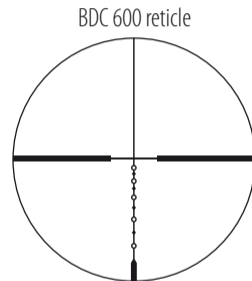

Fig. 3
(1) Focusing
- 1 Look through the eyepiece with your eye positioned about 4 in. (10 cm) away from the eyepiece to see the BDC 600 reticle (Fig. 3).